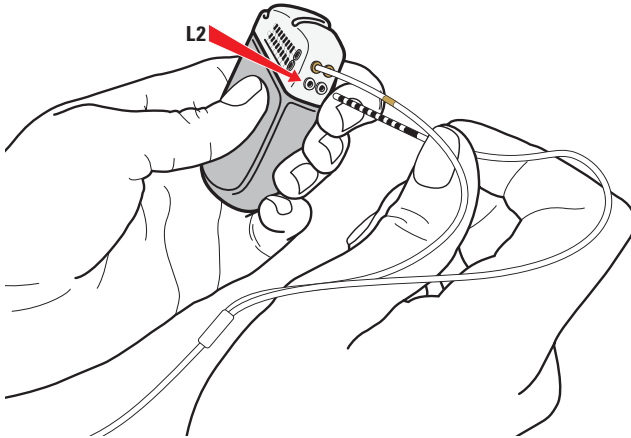

Figure 44. Connection to IPG Port L2
- b. Connect the tail with no marker band to the Port labeled L2 (Figure 44).